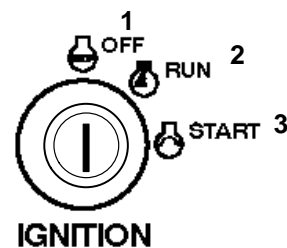

Figure 6
3. Turn the ignition key to “OFF” (Fig. 6).